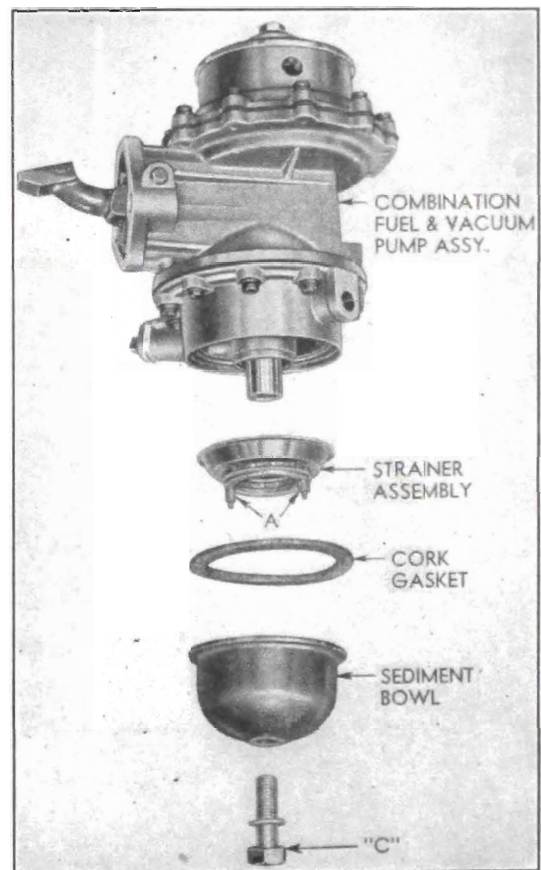

Fig. 6-96. Fuel Pump, Disassembled
The fuel filter is an integral part of the fuel pump. It comprises a metal sediment bowl with a special ring type strainer through which the fuel must pass upward. See Fig. 6-96. Dirt and
1. Wipe off all dirt on outside of unit. Loosen nuts "A" and gently blow through the strainer with a stream of air. See Fig. 6-96.